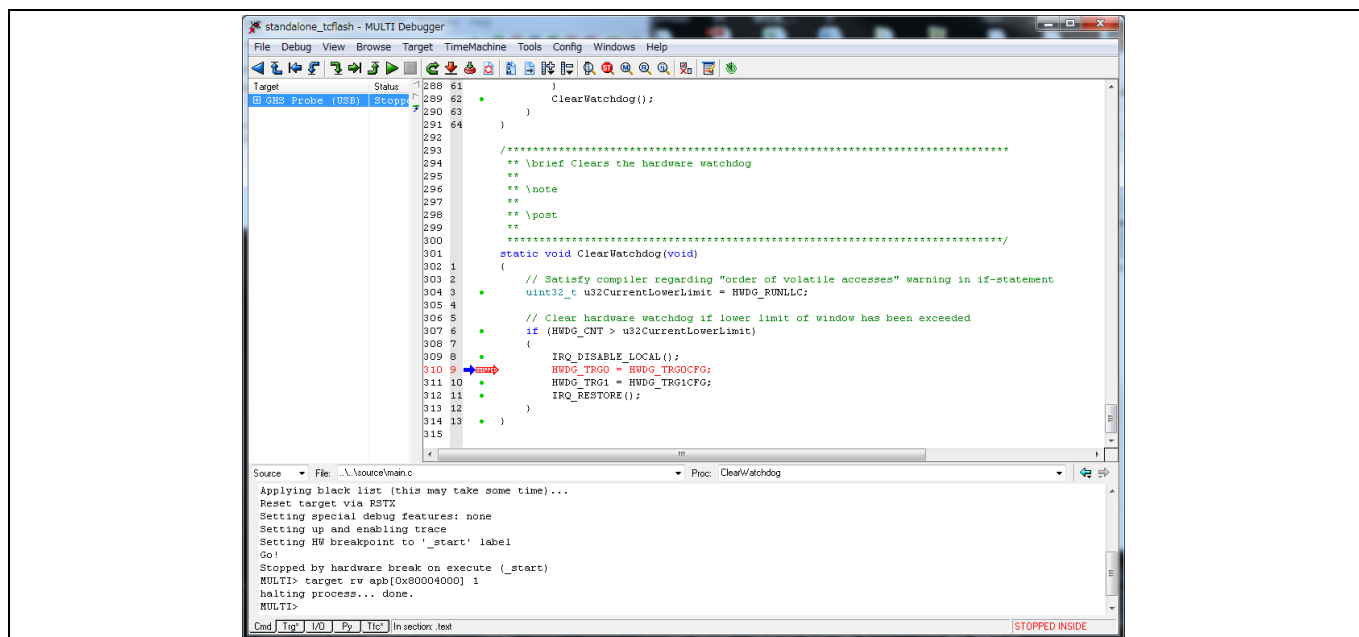

Figure 17 Start TimeMachine
1. Click the TimeMachine button in the toolbar, as shown in Figure 17.